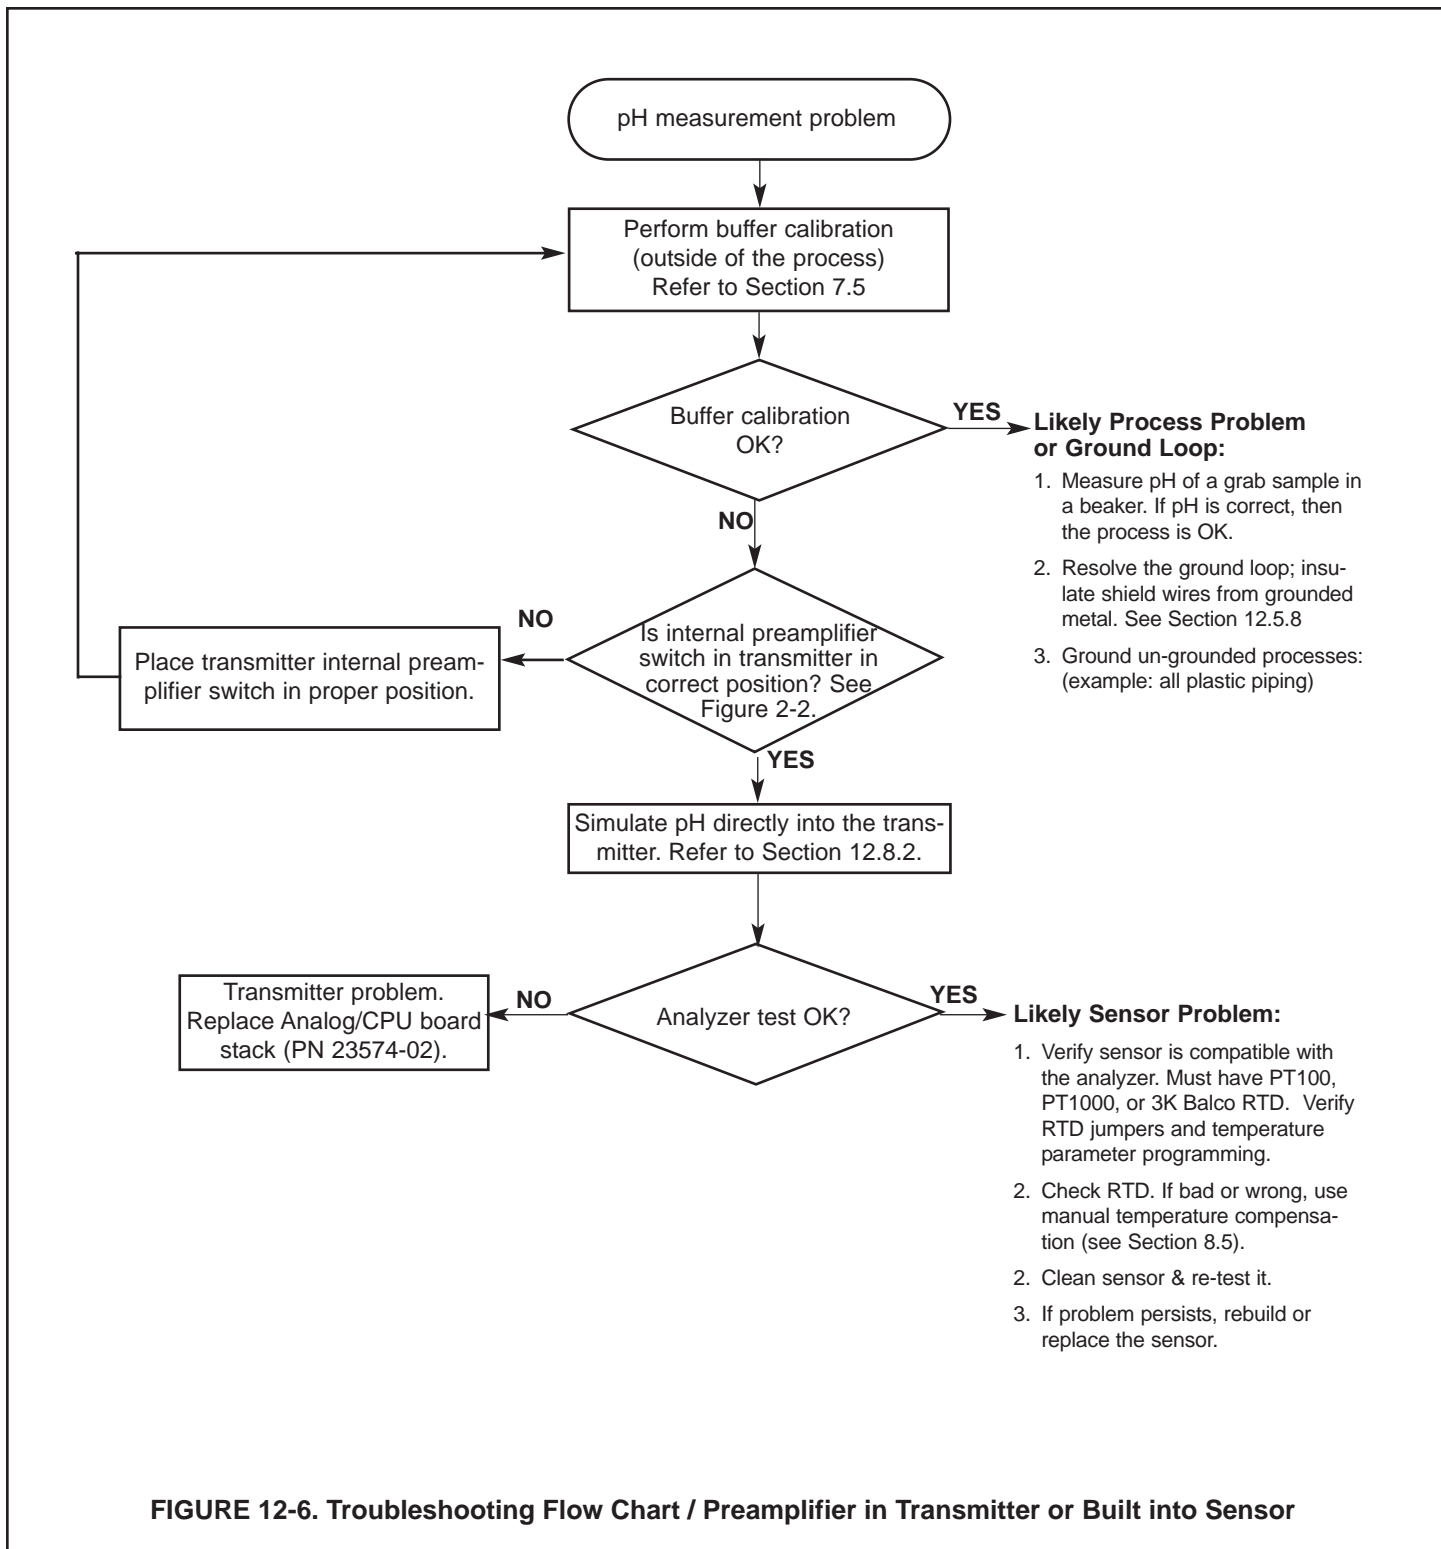

FIGURE 12-6. Troubleshooting Flow Chart / Preamplifier in Transmitter or Built into Sensor
- b. **If the preamplifier is in the transmitter or if the sensor has a built in (potted) preamplifier, use Figure 12-6.**